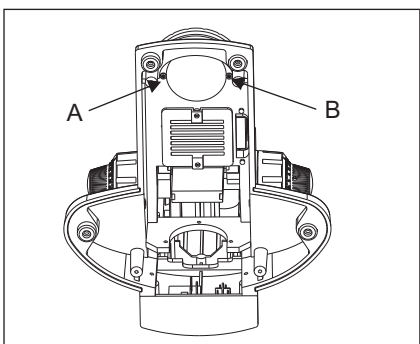

Fig. 8
3. Remove two screws (A) and (B) from (figure 8) to open the illumination mount and replace it with Koehler mount.